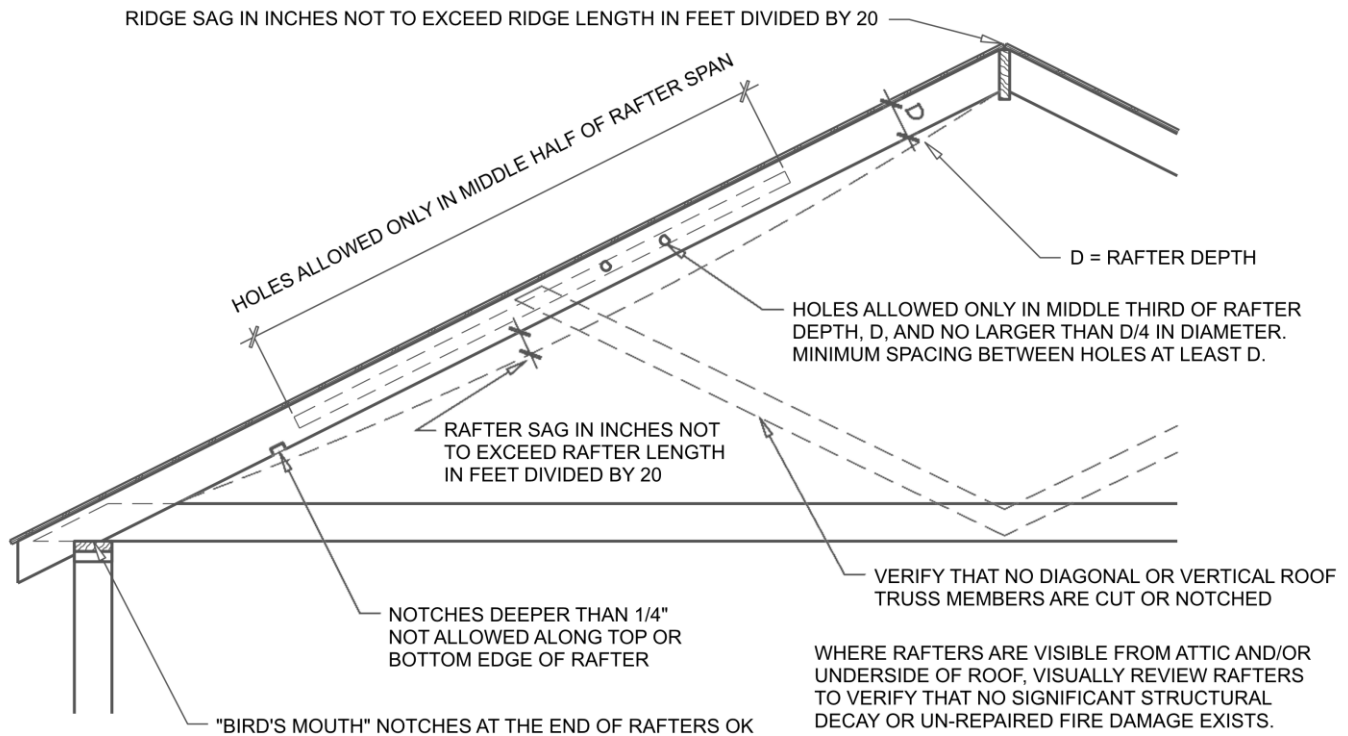

FIGURE 1. ROOF VISUAL STRUCTURAL REVIEW OF EXISTING CONDITIONS
- b. Does the roof structural appear structural sound, without signs of alterations or significant structural deterioration or sagging, as illustrated in Figure 1? Yes No